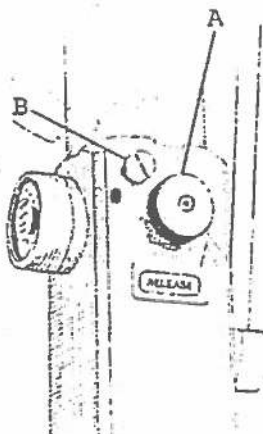

Fig. 2
To reduce tension (slack off stay), open the valve marked release. (See A Figure 2) It is a very sensitive needle valve and a gradual release can be obtained by opening the valve slightly. When the desired tension or position has been reached, close the release valve. This valve has been designed to seal tightly when the valve is closed gently. Do not over-tighten the valve as this will reduce its life.
1. Lay the unit down so that release valve (A in Fig. 2) is up. Put a rag under the unit as there will be some oil leakage.
3. Remove plug B (see Fig. 2) next to release valve. A slotted screw under this plug controls the relief valve tension.